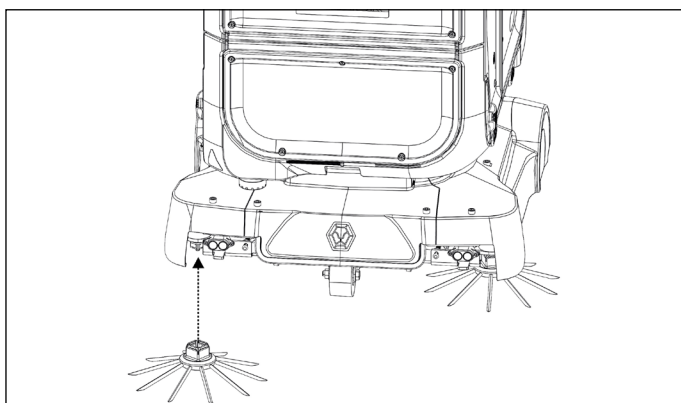

Figure 78
3. Align the core with the internal metal mating part on the robot, and then push the core of a new side brush upwards to lock, a click sound can be heard (**Fig. 78**).